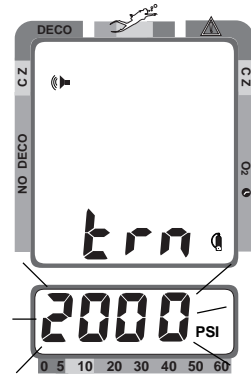

Fig. 20 - Set Turn Pressure Alarm Set Point
- Breathing Gas Time and Audible Alarm icons appear with the Pressure value flashing (Fig. 20)